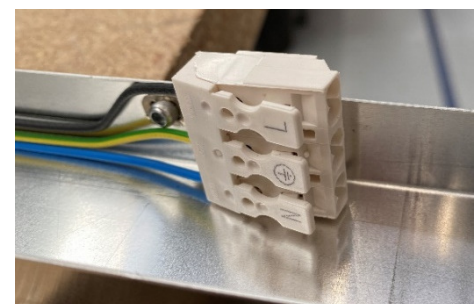

FIG.3
- Connect the wires to the connector placed in the internal aluminum structure (See fig.3). **Maximum wires section is 2,5mm².**